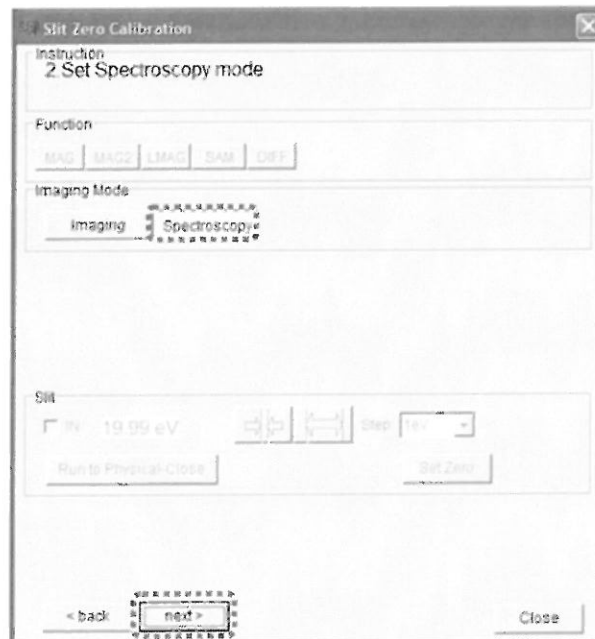

Fig. 5.57 Slit Zero Calibration - 2. Set Spectroscopy mode
2. Follow "Instruction – 2. Set Spectroscopy mode", switch to SPCTRE mode by clicking the **Spectroscopy** button (Fig. 5.57). After the switch, click the **next** button to proceed.